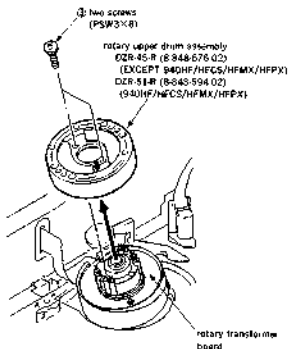

Fig. 3.
- 1) Remove the screw ① (P3×8).
- 2) Remove the shaft ground assembly ②.
- 4) Remove the screws ③ (PSW 3×8) and tap out the rotary upper drum assembly in the direction of arrow. (See Fig. 3.)